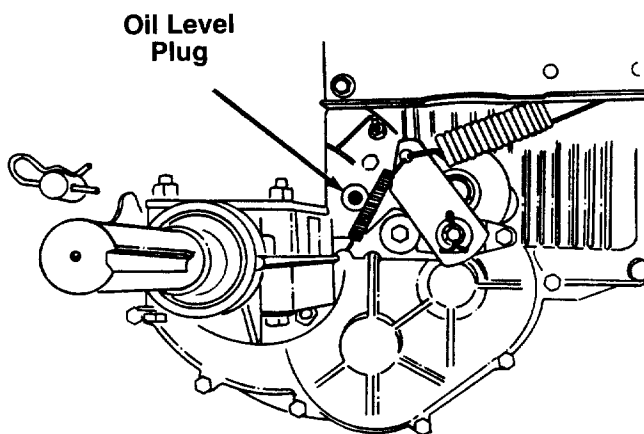

FIGURE 23.
5. Using a 1/4" allen wrench, remove the oil level plug from right side of transaxle. See figure 23.